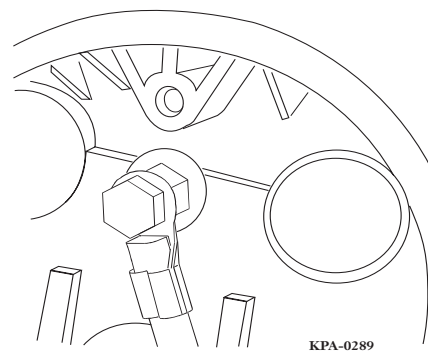

Figure 59 — Ground Wire
- Step 2** Connect a grounding cable (not supplied) to the screw (Figure 59).